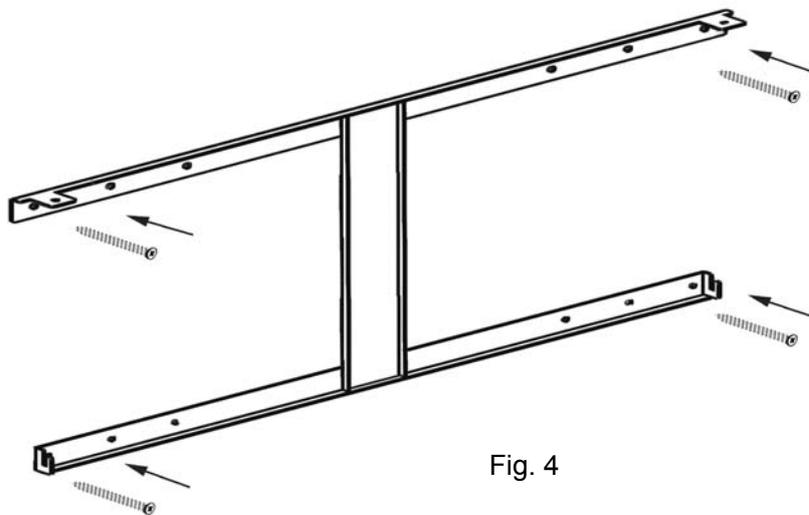

Fig. 4
- Fix the mounting bracket by 4pcs M5×8 screws (Fig. 4)